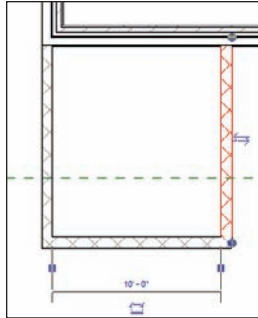

FIGURE 2.24 The selected wall is the wall that will move when you type the new dimension.
5. Notice the actual increment in the dimension is blue. Select the blue dimension, type **10**, and press Enter. The wall that was selected will move to accommodate the new increment, as shown in Figure 2.24.